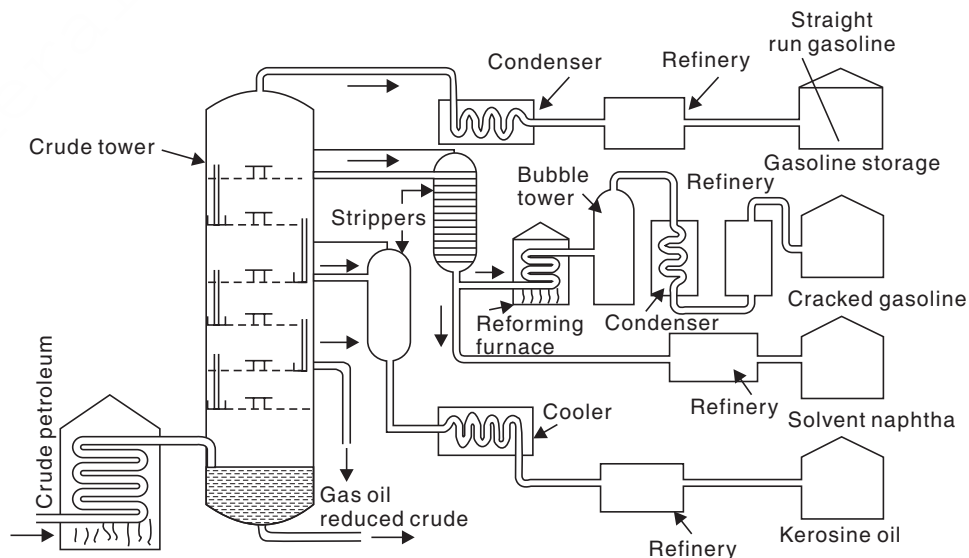

Fig. 18.6 Petroleum distillation.
3. **Petroleum distillation.** The crude oil is subjected to distillation to about  $400^{\circ}\text{C}$  temperature in an iron retort whereby all volatile components except the solid residue are distilled out. These are separated in a fractionating column consisting of a tall tower where the higher boiling fractions condense first. This distillation is a continuous process and the following fractions are obtained (Fig. 18.6) (Table 18.3).